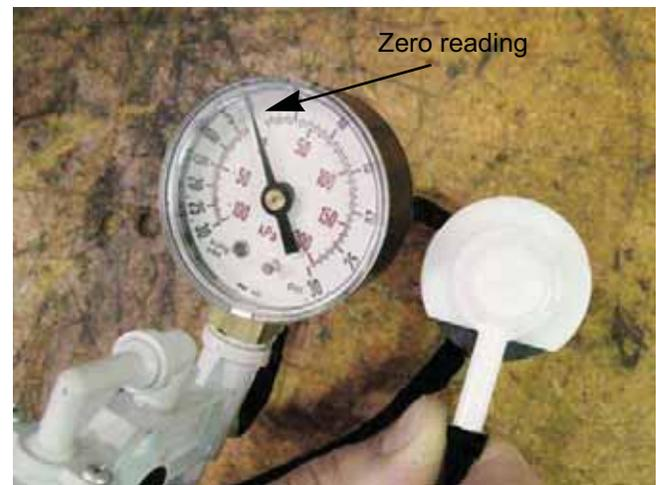

Figure 4.21
5. With the vacuum still applied, turn the roll over valve over. See Figure 4.21.